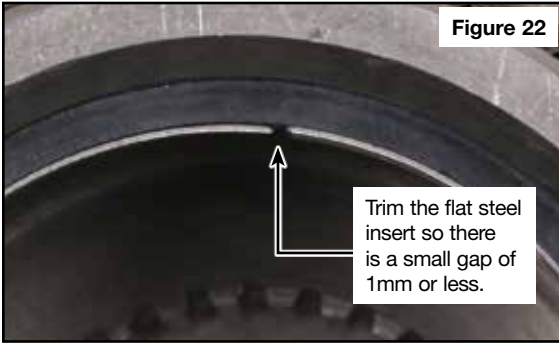

Figure 22
- Carefully trim flat steel insert so there is a small gap of 1mm or less (Figure 22).